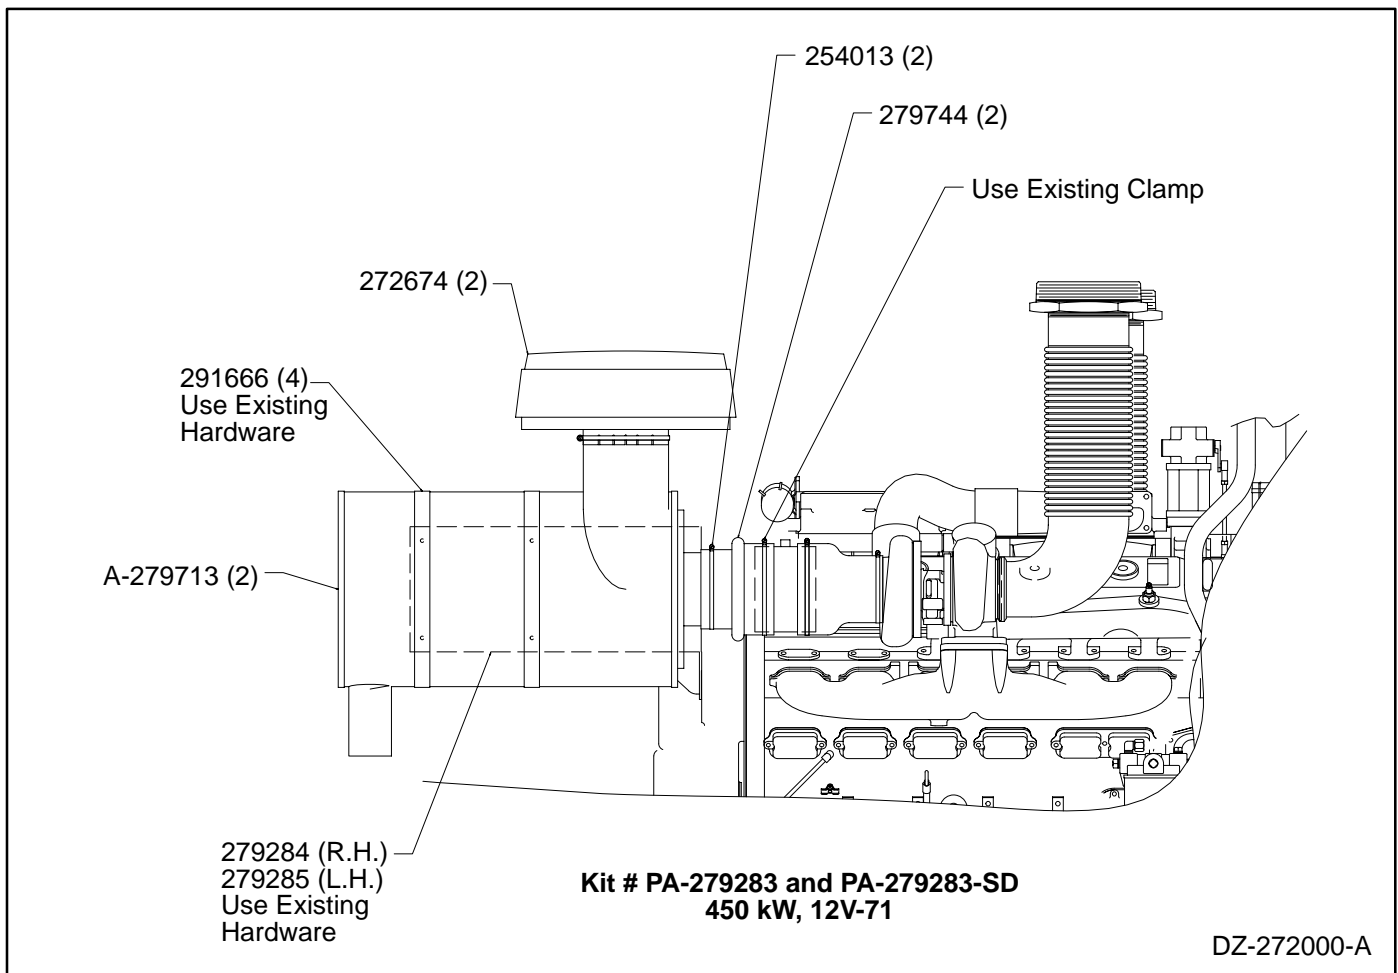

Figure 1. Heavy-Duty Air Cleaner Kit Installation.
3. Install mounting brackets (279284 and 279285) to sides of engine as indicated in Figure 1. Use existing engine hardware as appropriate.